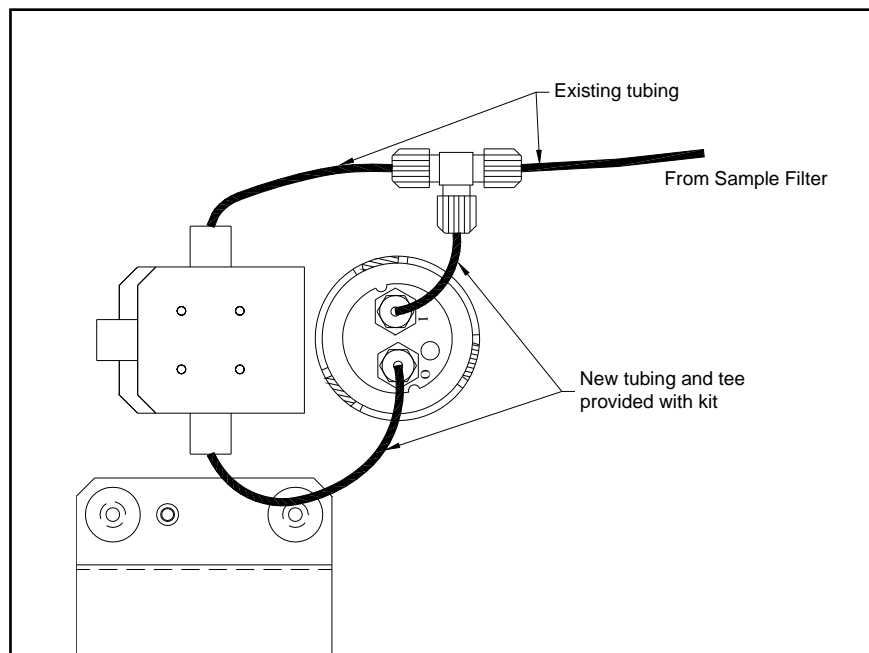

Figure 2
10. Install the scrubber as shown in Figure 2. The scrubber should be held to the chassis using two(2) #8-32 screws (provided in the kit) inserted from the bottom of the chassis. Note the orientation of the fittings marked "I" and "O."
11. Connect the tubing to the scrubber and reference valve as shown in Figure 2.